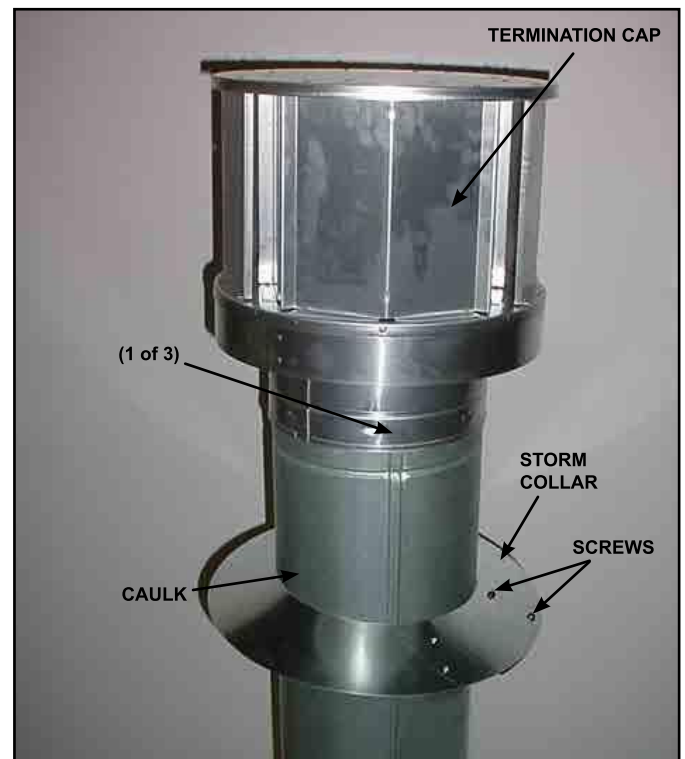

Figure 10.22
- Caulk around the top of the storm collar (see Figure 10.22).
- Secure the cap by driving three self-tapping screws (supplied) through the pilot holes in the outer collar of the cap into the outer flue of the pipe (see Figure 10.22).